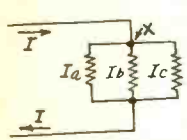

FIG. 1
The plates are connected in push-pull and we have the same impedances Z, which may be the halves of a push-pull transformer. As before the plate current in either tube is proportional to the square of the total grid voltage, assuming that the steady bias is high enough for efficient detection. Each tube gets the same grid voltage $E_g + e$. The two plate currents are now exactly equal and there is not even a voltage drop across Z, Z for the second term in the square of $E_g + e$. Hence we get no voltage across the impedances Z, Z or across a push-pull transformer connected in the usual way to the tubes. The meter M in Fig. 2 gives the increase in the plate current due to the signal just as it did in Fig. 1 and therefore if we wish to make use of the detecting efficiency of the tubes it is necessary that we connect the load in the position of M. There is little or no advantage in connecting as in Fig. 2, making Z, Z zero, for the effect is only that of putting two equal tubes in parallel both in the grid and the plate circuits. There may be a slight advantage in connecting as in Fig. 1 but it is not enough to justify the use of two tubes. In neither case is push-pull detection possible.
Kirchhoff's *first* law states that at any point in a circuit there is as much current flowing away from the point as there is flowing to it. In other words, electricity does not accumulate at any point in an electric circuit, since just as much current arrives at the point per second as leaves. For example, the series-parallel circuit shown in Fig. 1, the current I flowing to point (X) must exactly equal the sum of the currents $I(a)$, $I(b)$ and $I(c)$ which are flowing away from the point (X) . In other words, $I = I_a + I_b + I_c$.